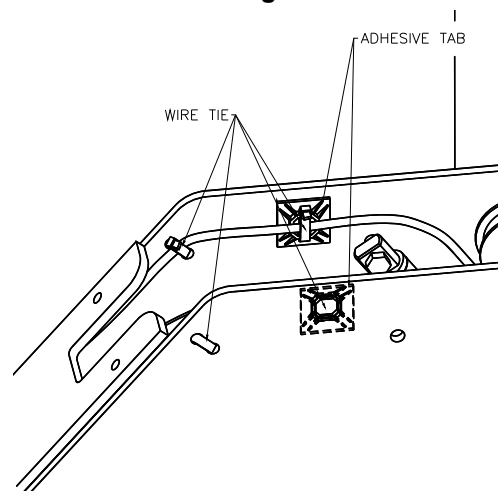

Fig 13 – 4mm Air Line Connection
- 37) Use the provided wire ties and adhesive tabs to connect the 4mm air line inside the ends of the front and rear cross beam to the side plate welds as shown in **Fig 13**.